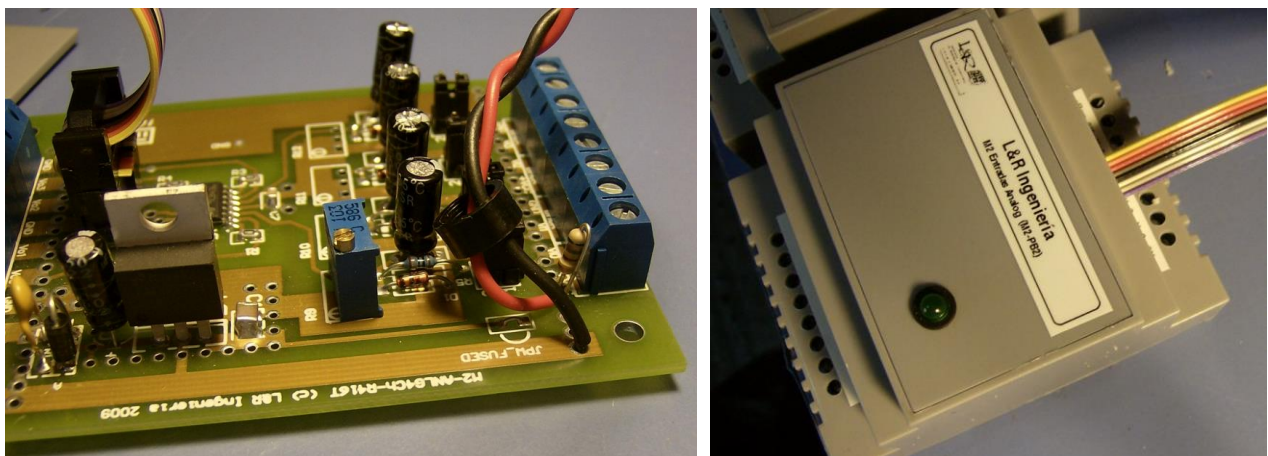
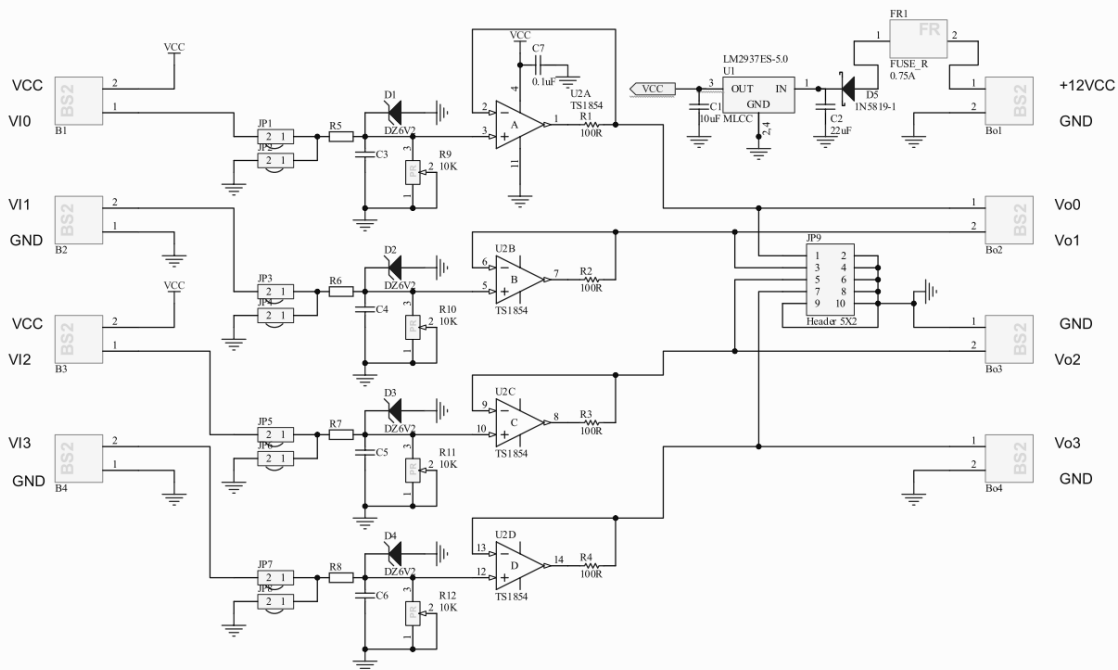

Figure 24 – M2 Analog 4 channel input board
Figure 25 – L&Ring. M2 Analog board – 4 channel single-ended.
For permanent connection, L&R Ing. offers analog signal conditioning boards such as the 4-channel M2, shown in Figure 24. This kind of board can be configured for specific input ranges or bought without input resistor components, which can be soldered by the end-user. Two of these would be necessary to cover the 8 available inputs of the CL2bm1 boards. In Figure 25, the schematic of the M2 board is shown, the first order RC filters and TS1854IDT [ref16] operational amplifier followers allow for slow-varying signals and are adequate for a large range of typical applications.